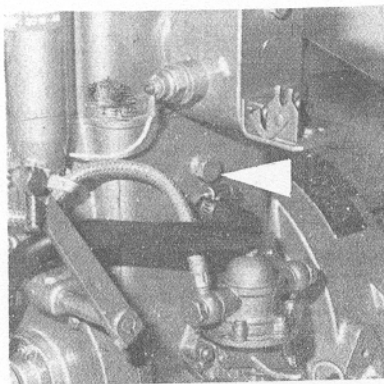

Fig. 15
- Vidanger l'eau du cylindre Fig 15
- Drain water from the cylinder Fig 15